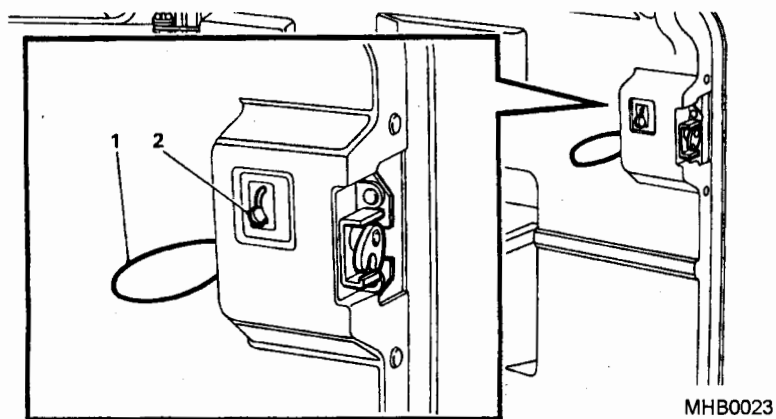

Fig 2 Internal door locks
- 4.1 Move the knob (Fig 2 (2)) on the lock case downwards.